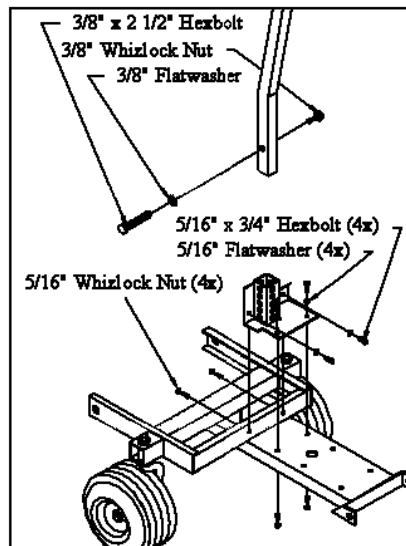

Fig. 2
2. With vertical support bracket (10) in position as shown, align with holes on frame. Secure with 5/16" x 3/4" hexbolts, 5/16" flatwashers as shown and 5/16" whizlock nuts. **Do not tighten.** Slip vertical upright (11) into receiver tube on support bracket as far as it will slide and align with a mount hole in tubes. Secure with 3/8" x 2 1/2" hexbolt, 3/8" flatwasher and 3/8" whizlock nut. **Again, do not tighten.** **Fig. 2**